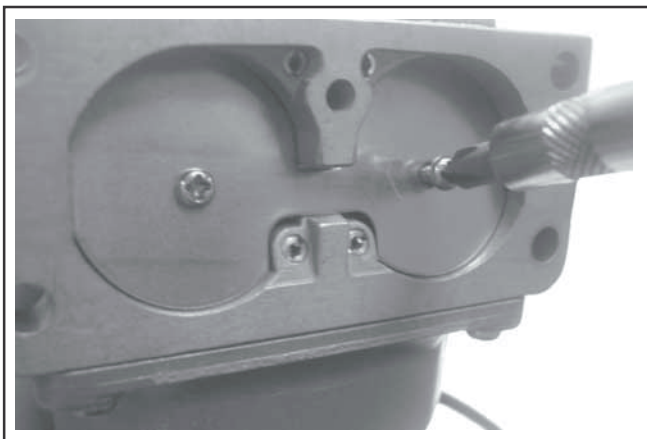

Figure 5-34. Installing Choke Plate.
11. Place a drop of Loctite® on the threads of each new screw. Position and install the new choke plate to the flat side of the choke shaft. Start the two screws. Close the choke and check the plate alignment within the carburetor throat, then tighten the screws securely. **Do not** overtighten. See Figure 5-34.